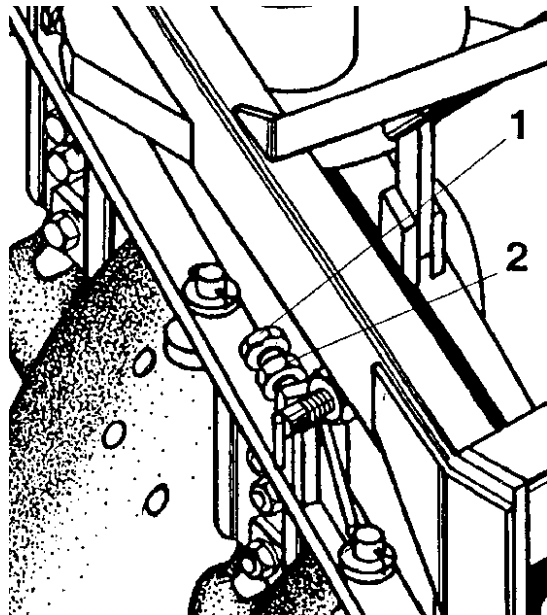

Figure 11
- 01 - The cutting angle of discs is adjusted through the screw Item 1 fig.11. Tightening it, the cutting angle decreases, thus allowing greater penetration of discs.
- 03 - To adjust the screw item 1, unlocked when the locknut Item 2 and adjust front and rear screws uniformly, thus obtaining a perfect plowing in both directions.